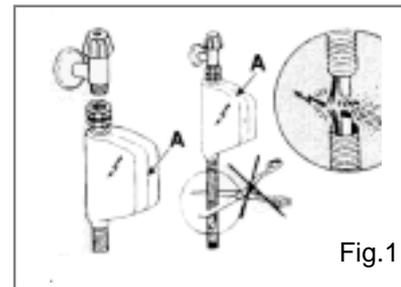

Fig.1
Six beeps will indicate that the wash cycle has finished and the LCD display (B) will come on (see fig.1). Turn off the appliance using the ON-OFF button. Turn off the water supply to the appliance and open the door. Wait a few minutes before unloading the dishwasher to avoid handling the dishes and utensils while they are still hot and more susceptible to breakage. They will also dry better.
Connect the cold water supply hose to a threaded 3/4 (gas) connector and making sure that it is fastened tightly in place (see Fig.1).
The dishwasher is equipped with a system that stops the supply of water in the event of a problem with the water supply hose, or leaks within the unit, in order to prevent damage to your home. If for any reason the box containing the electrical components happens to get damaged, remove the plug of the appliance from the socket immediately. In order to guarantee that the anti-flooding feature operates properly, the box "A" with the water supply hose must be attached to the water supply tap as shown in Fig. 1. No other type of connection is acceptable. The water supply hose must not, under any circumstances, be cut, as it contains electrical parts which are live. If the length of the hose is not adequate to make a proper connection, the hose must be replaced with one which is long enough. This hose is available upon request from specialised retailers and service centres.